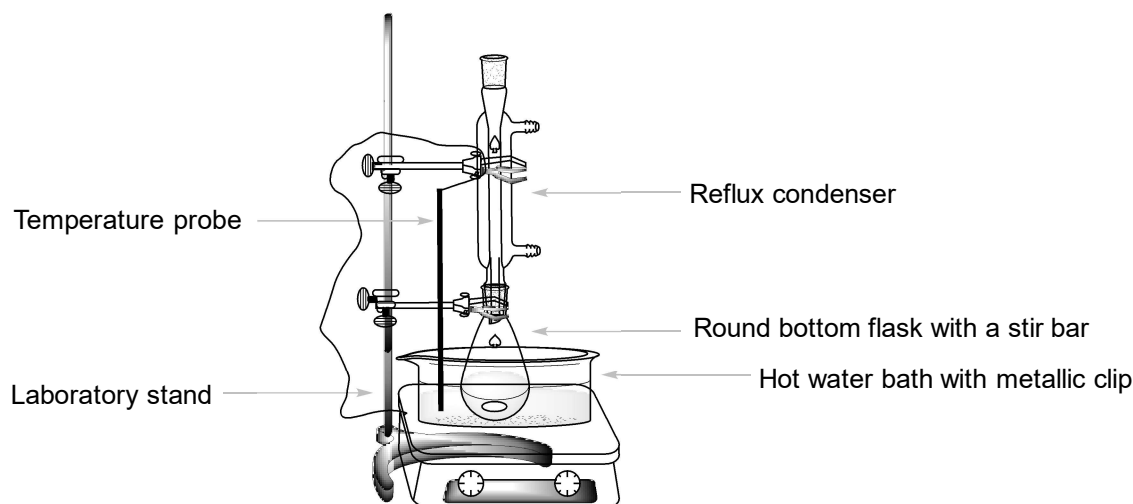

Figure 1. Setup for heating the reaction mixture in a water bath.
3. Place the round bottomed flask into the hot water bath. Attach an air reflux condenser (water connection is not needed) and secure it in the upper part by a loosely attached large clamp, as shown in Figure 1. Let compound **A** dissolve with stirring.
Preheat the water bath to 80 °C. Insert a magnetic stir bar into the 50 cm³ ground-joint conical flask containing the organic phase **O2** from step II.6 and add 0.300 g of 2,4-dinitrophenylhydrazine (**DNPH**). In a graduated cylinder, measure 10 cm³ of ethanol. Using a glass Pasteur pipette, rinse the glass vial with 5 × 2 cm³ of ethanol to transfer all of the **DNPH** into the conical flask. Place the conical flask into the hot water bath, attach a reflux condenser (similar setup as in Figure 1) pre-rinsed with ethanol. Through the top opening of the condenser, add 3 cm³ of 20% HCl using the glass funnel and stir the reaction mixture at 80 °C for 2 minutes. Fine orange crystals of product **C** start to form. Then turn off the heating of the hotplate stirrer. Lift the reaction flask above the water bath. (**Caution!** Touch only the clamps, the flask is hot.) Allow the reaction mixture to cool down for 15 min and then place it into a cold water bath (prepared by pouring cold tap water into a 150 cm³ beaker).